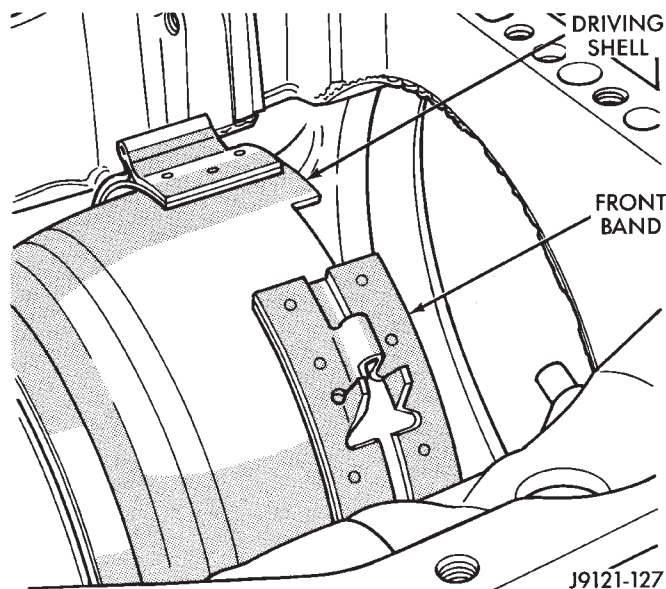

Fig. 17 Front Band Removal/Installation
(27) Slide front band off driving shell (Fig. 17) and remove band from case.